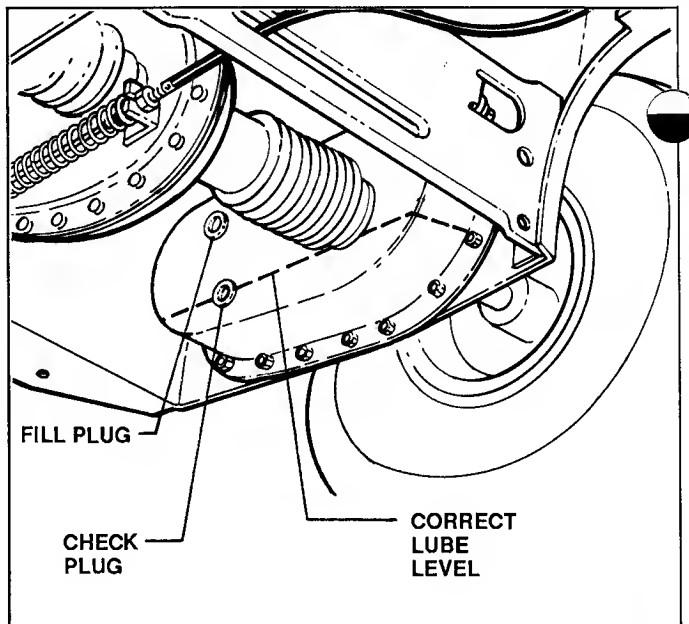

FIGURE 16
- CHECK GREASE LEVEL by removing CHECK PLUG on inside of unit shown in Figure 16 to check level of oil. Add SNAPPER "0" grease as needed thru upper fill hole to bring the level up to the lower edge of the CHECK PLUG hole. Reinstall NEW plugs after servicing.
- CHAIN CASE: Remove plug and check. If dry, add one ounce of SNAPPER "0" grease—do not overfill. Total capacity must not exceed 2 ounces. See Figure 16.